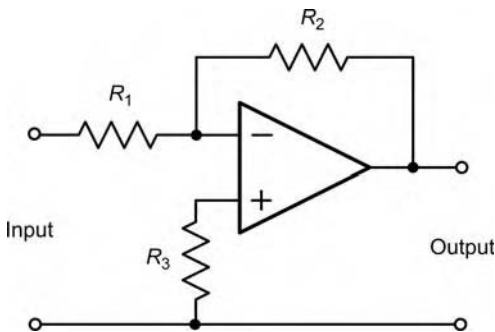

Figure 6.146
44. The voltage gain produced by the circuit shown in Figure 6.146 will depend on the: [B2]